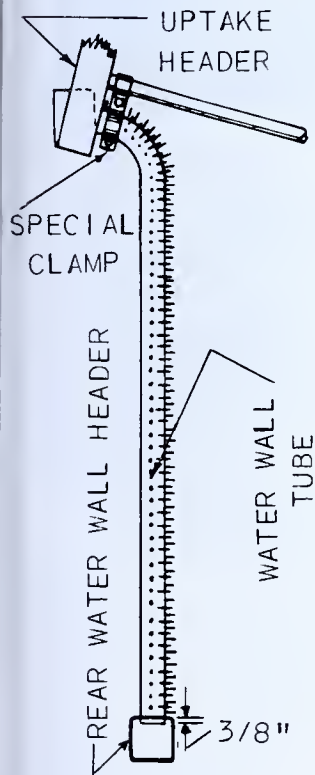

FIG. 495 — Rear Water Wall Tube
4. Insert the bent end of the rear water wall tube into the hole provided in the bottom of the uptake header as shown in Fig. 495, and at the same time drop the lower end into the opening provided in the rear water wall header.